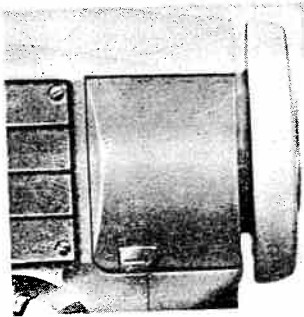

Fig. 61
- (1) Open bobbin winder cover door Fig. 61.